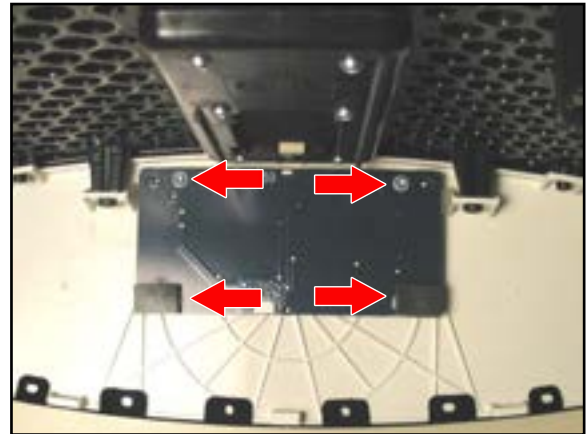

Figure 11. Button PCB Removal
5.2 Remove the four screws securing the button PCB to the top cap. Slightly lift up the foam to expose to the two screws furthest from the grille. Figure 11.